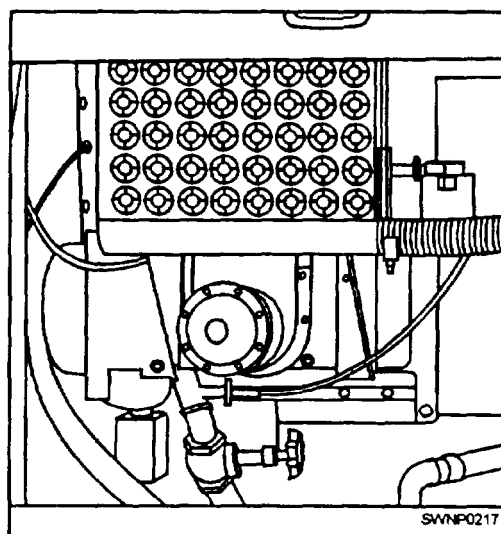

Figure 12-31.—Air cleaner.
**SERVICING THE AIR CLEANER.**— A two-stage, dry type of air cleaner, installed inside the engine enclosure at the right rear, filters the intake air (fig. 12-31). Air is drawn into a first-stage element that causes nearly all the dust in the air to drop into a bin. Air then enters the second-stage element, a paper cartridge, where more dust is trapped and collected.